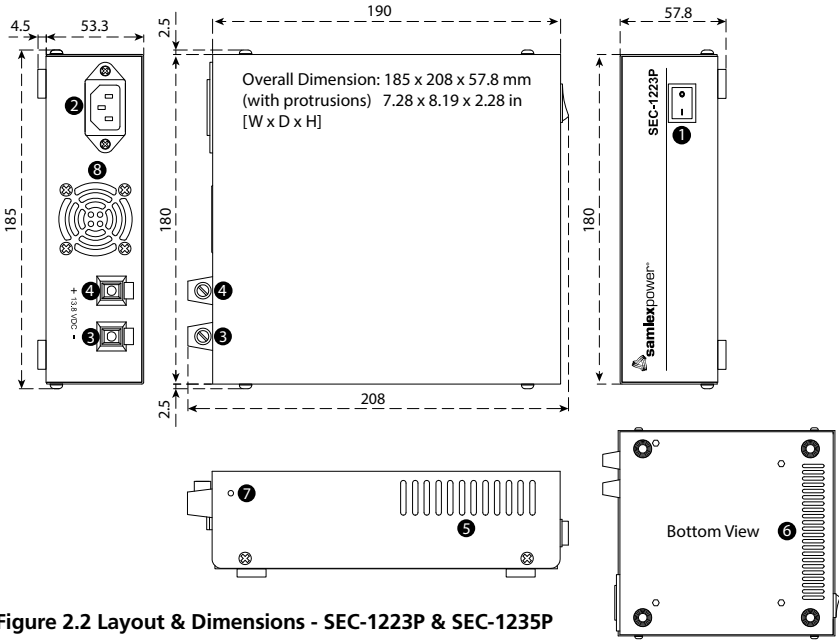

Figure 2.2 Layout & Dimensions - SEC-1223P & SEC-1235P
#### LEGEND for Fig 2.2
7. Lanced tab that slides into corresponding slot in the bottom housing. (There is one more lanced tab on the other corresponding side of the top cover). This ensures that the top cover fits properly only in one orientation i.e. with ventilation slots (5) positioned away from the fan discharge openings (6).
- NOTES:** 1. The top cover will fit properly only when the 2 lanced tabs (7, Fig 2.2) are oriented towards the DC output terminals (3) and (4).
SEC-1223P/1235P/ SEC-1235P-M are cooled by convection and by forced air cooling by temperature controlled fan. The fan sucks cool air from the inlet slots located towards the front sides of the top cover (5, Fig 2.2 and 2.3) and the front side of the bottom housing (6, Figs 2.2 and 2.3). The air is discharged from the rear ventilation openings in the bottom housing behind the fan (8, Figs 2.2 and 2.3).
In SEC-1223P/1235P/1235P-M, the fan sucks cool air from the inlet slots located towards the front sides of the top cover (5, Fig 2.2 and 2.3) and the front side of the bottom housing (6, Figs 2.2 and 2.3). The air is discharged from the rear ventilation openings in the bottom housing behind the fan (8, Figs 2.2 and 2.3). For proper air flow path from the front to the rear, it is necessary that the top cover is fitted with the side ventilation slots (5, Fig 2.2 and 2.3) oriented towards the front. To ensure this, 2 lanced tabs (7, Fig 2.2 and 2.3) are provided in the top cover that will slide into the corresponding slots in the rear side of the bottom housing. The top cover will not fit properly if the ventilation slots are facing towards the rear side because the lances tabs will interfere with the top edge of the front side of the bottom housing (there are no corresponding slots on the front side of the bottom housing)